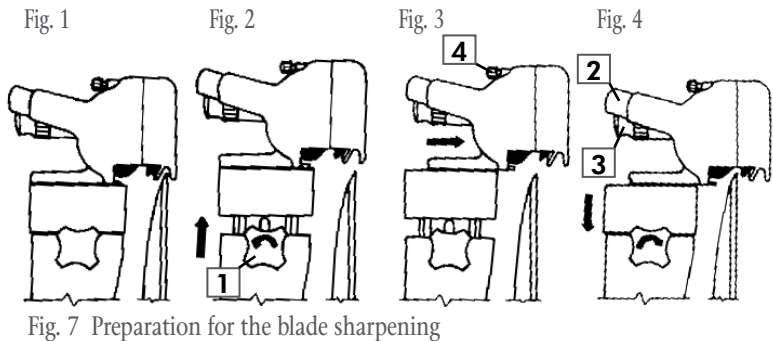
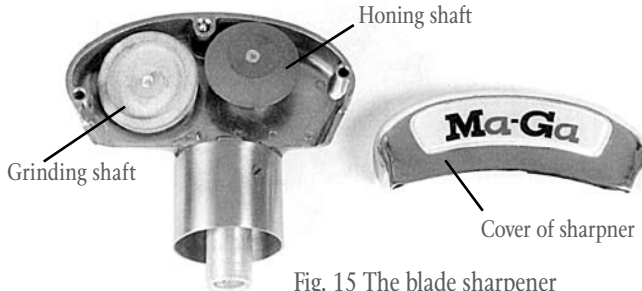

Fig. 7 Preparation for the blade sharpening
Fig. 15 The blade sharpener
The sharpening process (Fig. 7) should be proceeded as follows:
- Fig. 2 Loosen the knob situated on the side of the sharpener, on the housing (Fig. 7, pos. 1). The sharpener will rebound upwardly.
- Fig. 4 The abrasive disks are above the blade. Now the whole sharpener should be pressed down, home (Fig. 8) and locked in this position, by screwing with a knob situated at side (Fig. 7, pos. 1). In this position the sharpener is ready for the blade sharpening.
2. Press the sharpener puller button (Fig. 7, pos. 2, - this one with a cavity) for period of 5-10 seconds and then pull the puller handle (Fig. 7, pos. 3 - this one with a knurl) for the same period. It should be enough for regular blade sharpening. If the blade cutting edge has nicked, sharpening process should be longer. For the finishing of sharpening process the pusher should be pressed and the puller pulled simultaneously for 2-3 seconds (Fig. 9).
After finishing the sharpening operation the sharpener should be positioned in normal position (Fig. 7, pos. 1). To do this, perform following steps:
1. Loosen a knob positioned at the side of the sharpener (Fig. 7, pos. 1), it will rebound up and shift back.
2. Push the sharpener down with left hand and fasten the knob at the side of the sharpener (Fig. 7, pos. 1). Now the sharpener serves as a segment of the blade shield and the slicer is ready for further operation.
To perform the maintenance of the sharpener, it should be first of all dismantled from the slicer. To do that, unscrew the knob at the side of the gear housing (Fig. 7, pos. 1) until it is possible to take it away from the housing socket. Access to the abrasive disks of the sharpener is possible after unscrewing of a bolt joining the housing and the cover (Fig. 7, pos. 4). After removing the cover (Fig. 15) proceed as follows:
- b) remove the polishing disk (started by pulling), after unscrewing the puller (Fig. 7, pos. 3). Take care to not lose of loose parts.